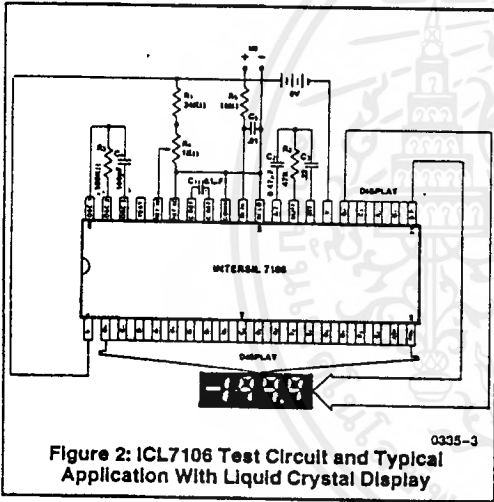
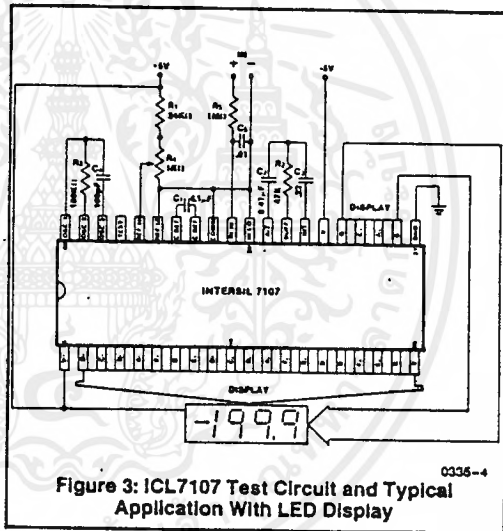

Figure 2: ICL7106 Test Circuit and Typical Application With Liquid Crystal Display
Figure 3: ICL7107 Test Circuit and Typical Application With LED Display
- NOTES: 1. Unless otherwise noted, specifications apply to both the 7106 and 7107 at $T_A = 25^\circ C$, $f_{clock} = 48kHz$. 7106 is tested in the circuit of Figure 2. 7107 is tested in the circuit of Figure 3.